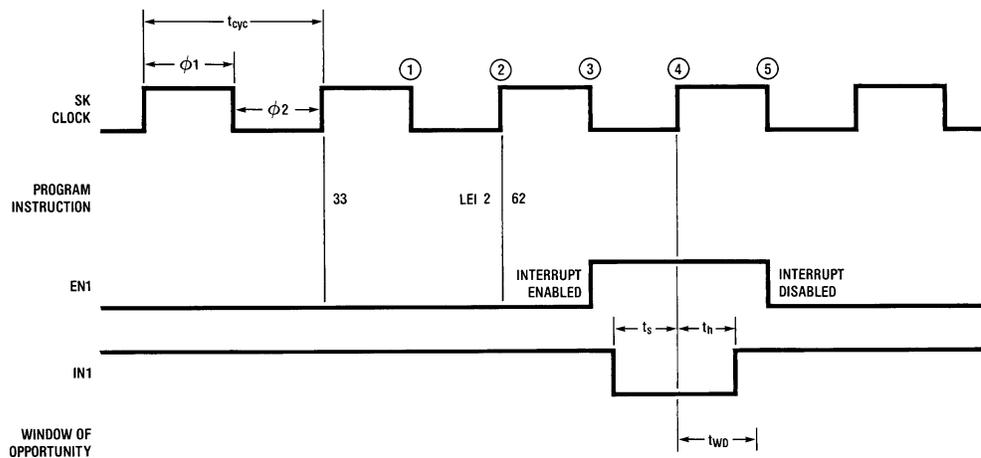

FIGURE 1. COP Interrupt Diagram
This brief describes in detail the timing requirements pertinent to COPS interrupts. *Figure 1* shows a typical enable-interrupt sequence in relation to the SK (Instruction Cycle) Clock. The SK clock is actually derived from the $\phi 1$ clock which is 180° out of phase with the $\phi 2$ clock. It is the $\phi 1$ and $\phi 2$ clocks to which all operation is referenced but for our purposes the SK will suffice. Program instructions are read on a rising $\phi 1$ edge and executed during the $\phi 1, \phi 2$ cycle time. Here we see the EN register interrupt enable bit EN2 being set with an LEI instruction. Interrupts are actually enabled on the $\phi 2$ leading edge of the second byte of the instruction point ②. Timing for an INTERRUPT DISABLE is essentially the same.